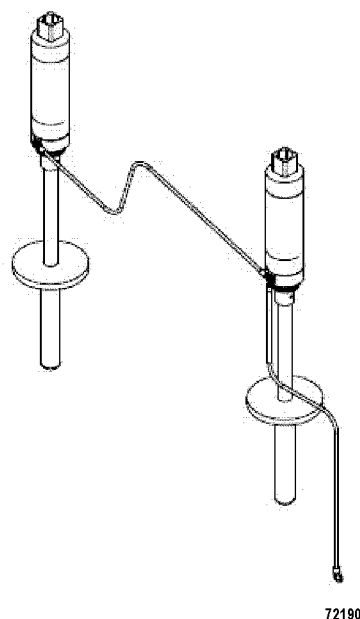

FIGURE 00-3. GROUNDING STICKS (PC3299)
- Grounding stick pair (Figure 00-3)